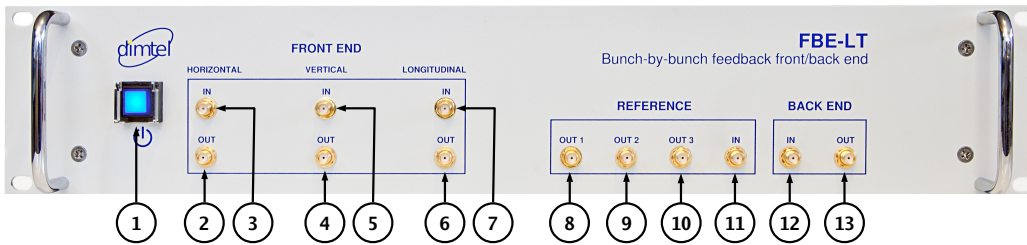

Figure 2: Front panel features
2. Connect radio frequency (RF) clock at 3 dBm nominal level (Fig. 2, item 5);
3. Connect the reference output (Fig. 2, item 8) to the CLK input of the iGp/iGp12;
5. Connect the front-end input (Fig. 2, item 3, 5, or 7) to the beam signal at the appropriate level;
6. Connect the front-end output (Fig. 2, item 2, 4, or 6) to the IN+ or IN- of the iGp/iGp12. Terminate the unused iGp/iGp12 input with a wideband 50  $\Omega$  SMA terminator;
7. Connect the back-end input (Fig. 2, item 6) to the OUT+ or OUT- of the iGp/iGp12. Terminate the unused iGp/iGp12 output with a wideband 50  $\Omega$  SMA terminator. When using iGp12, place a 4 dB attenuator between the DAC output and the back-end input;
8. Connect the back-end output (Fig. 2, item 7) to the power amplifier input;
10. Push the power button (Fig 2, item 1) to turn on the system;